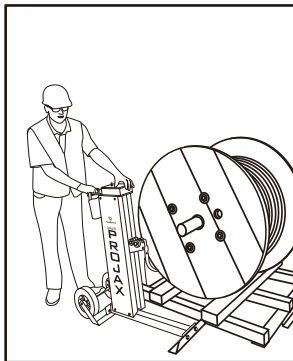

Fig. 1
3. Maneuver ProJax™ Reel Stand to the side of the cable reel (Fig 1).